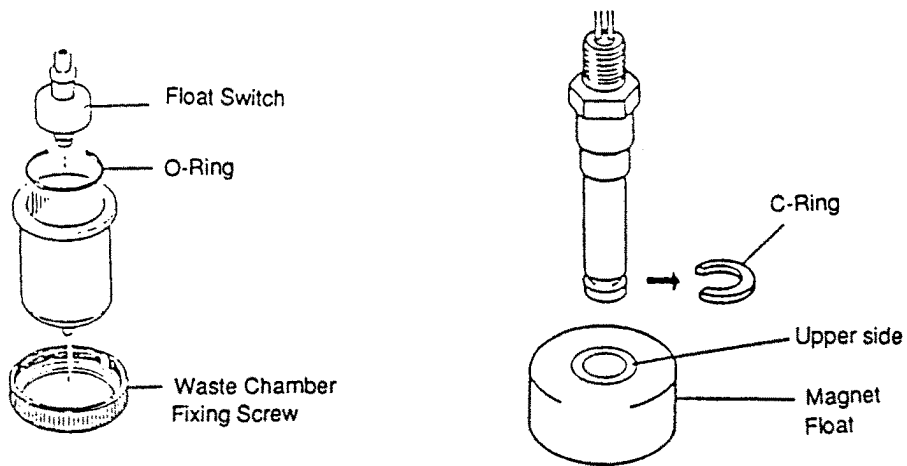

Figure 6-3-20 Float Switch
- E. Disassemble the Float Switch and clean it in the same way as Waste Chamber. Removing the C-ring frees the float, as shown in Figure 6-3-20.